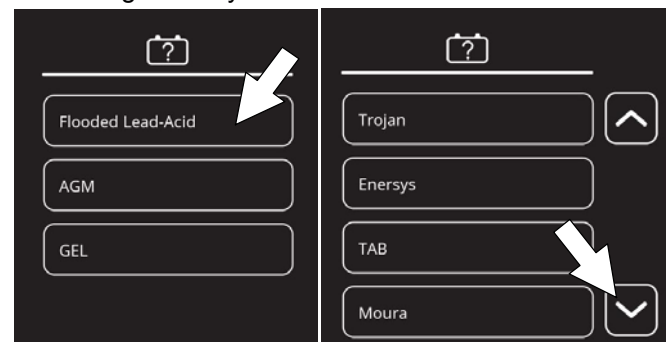

FIG. 129
- Select battery type and brand installed in machine (Figure 129). See battery label to determine type and brand. Press the up and down arrows to scroll through battery selection.